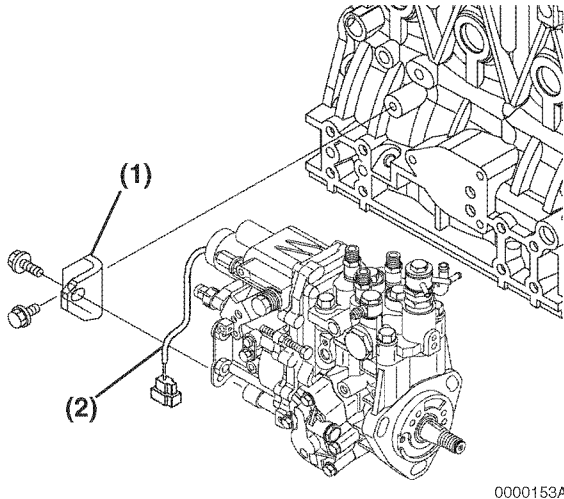

Figure 7-29
6. Reinstall the rear bracket(s) **(Figure 7-29, (1))** to the fuel injection pump. Tighten the rear support bolts.